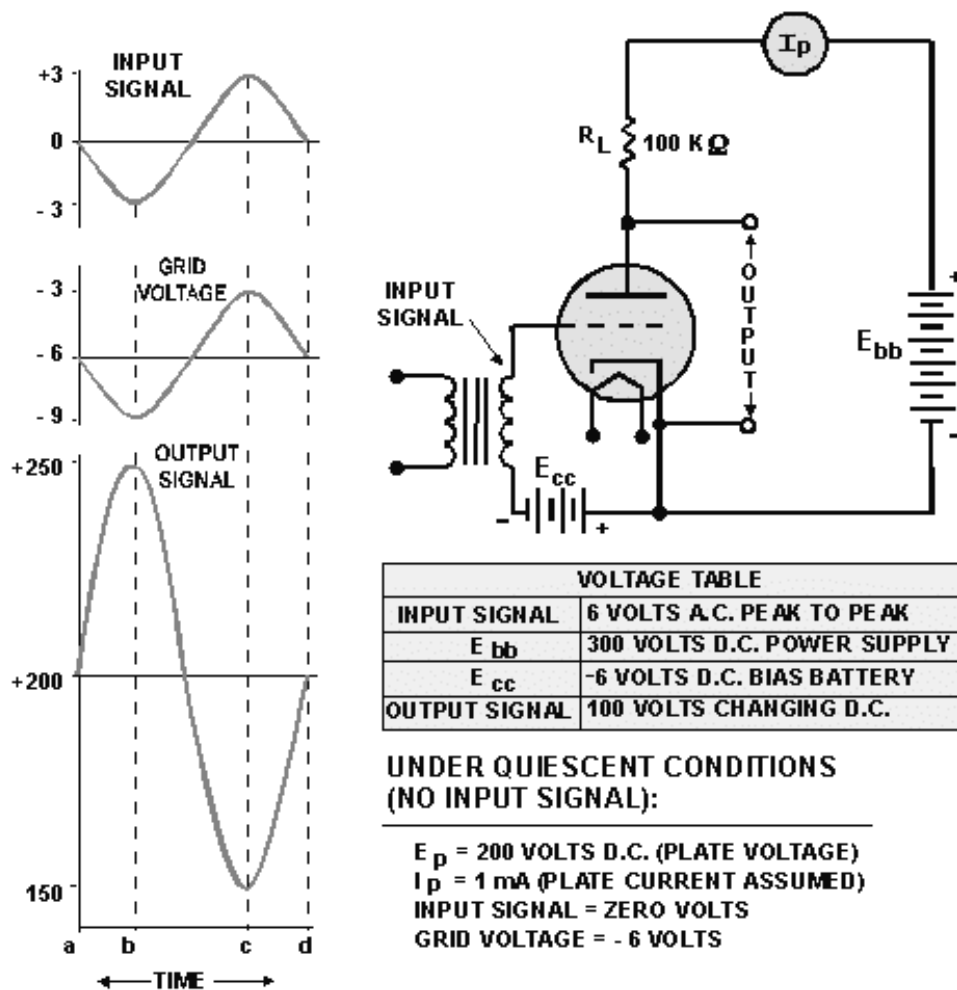

Figure 1-19.—Triode operation.
The circuit in figure 1-19 brings together all of the essential components of a triode amplifier. Before analyzing the circuit, however, we need to define the term **QUIESCENT**.
Simply, quiescent describes circuit conditions when the tube is not amplifying. The tube has no output signal and is in a kind of standby, waiting condition. Now let's go on to figure 1-19. With no input signal, under quiescent conditions, assume that 1 milliamperes of current flows through the tube, cathode to plate. This current ( $I_p$ ) will flow through  $R_L$  (load resistor) to the positive terminal of the battery. The current flowing through  $R_L$  causes a voltage drop ( $IR$ ) across  $R_L$  equal to:
These values are shown on the waveforms as time a in figure 1-19.
Before going on to the next section, there is one more thing of which you should be aware. Look again at the waveforms of figure 1-19. Notice that the output voltage of the amplifier is 180° out of phase with the input voltage. You will find that this polarity inversion is a characteristic of any amplifier in which the output is taken between the cathode and the plate. This is normal and should not confuse you when you troubleshoot or work with this type of circuit.
- Q18. A triode amplifier similar to the one shown in figure 1-19 has an  $E_{bb}$  -350 volts dc. The plate-load resistor is 50 kΩ. Under quiescent conditions, 1.5 milliamperes of current conducts through the tube. What will be the plate voltage ( $E_p$ ) under quiescent conditions?